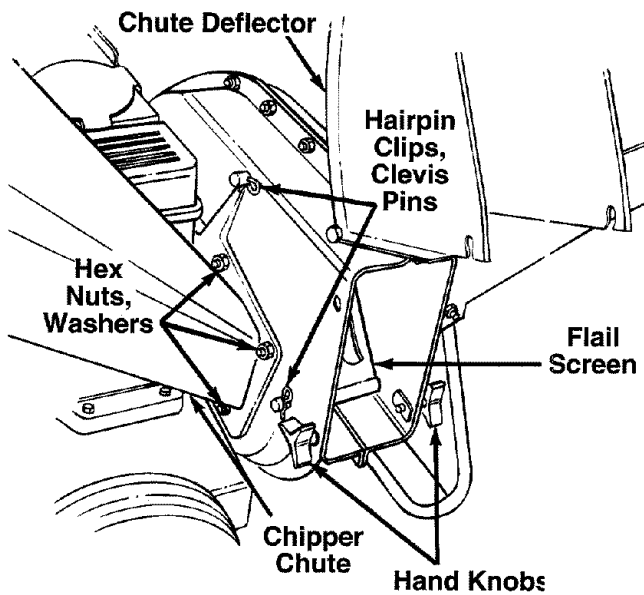

FIGURE 19.
- Remove two hairpin clips from the clevis pins which extend through the housing. Remove the clevis pins. Lift the flail screen from inside the housing. See figure 19.
**NOTE:** Be certain to reassemble the flail screen with the curved side down as shown in figure 19.
- Remove the chipper chute by removing three hex nuts and washers. A 1/2" wrench is required. See figure 19.
Make certain blades are reassembled with the sharp edge facing the direction shown in figure 19 (sharp edge is assembled toward the slotted opening in the impeller assembly). Torque bolts and nuts to 250-350 inch pounds.